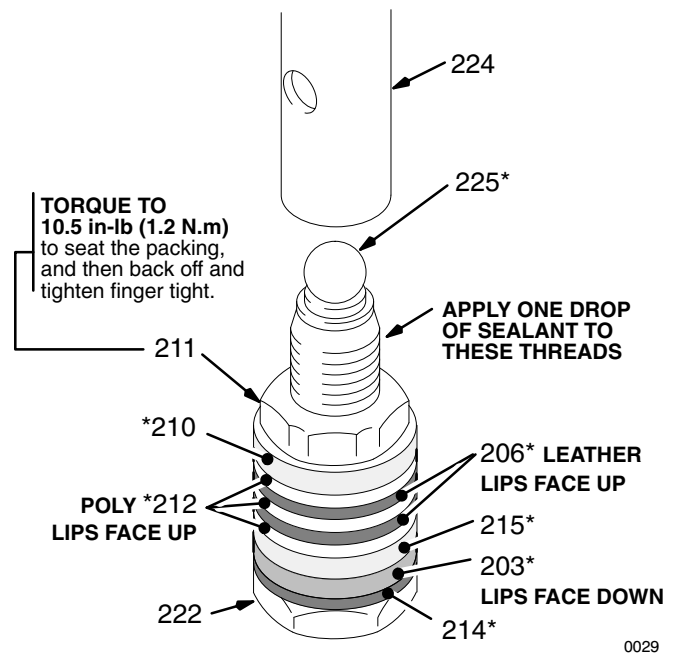

Fig. 27
NOTE: Alternate leather and plastic packings as shown in Fig. 27. The lips of the throat “V” packings must face down. The lips of the piston “V” packings must face up. The lips of the U-cup seal (203*) face down. Incorrect installation damages the packings and results in pump leaking.
4. Place the ball (225) on the piston valve (222). See Fig. 27.
5. Apply one drop of adhesive, supplied, to the piston valve threads. Then hand tighten the valve assembly into the piston rod just until the nut (211) contacts the rod. See Fig. 27.